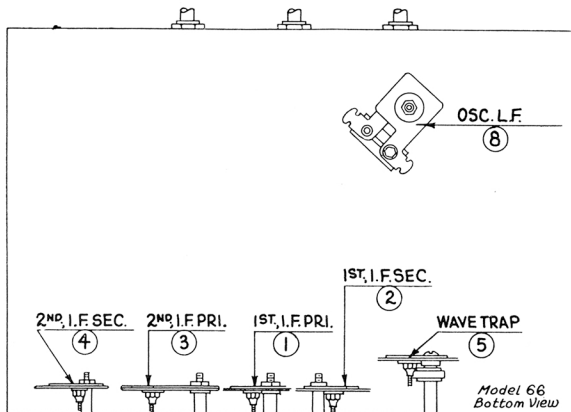

Fig. 19
1. Remove grid clip from cap of 6A7 tube and connect antenna lead from signal generator to cap of tube. Connect ground lead to ground post on set. Turn on set and signal generator; set wave switch of latter to 460 K.C. (the I.F. of Model 66) and dial of set at 540, wave band switch to left. Adjust each of the four I.F. compensating condensers ①, ②, ③ and ④ in turn so that maximum reading is obtained in the output meter (connected as explained on page 2). If the meter reading goes off scale, adjust the attenuator on the signal generator so as to get a lower reading. These I.F. condensers (visible in Fig. 19) are adjusted by inserting the hex wrench through the holes in rear of chassis sub-base (except one to extreme left when facing rear of set). Two of the holes are covered by small metal buttons which can be removed temporarily by hand.
4. This condenser ⑧ is located underneath chassis (see Fig. 19) and is reached from underneath. Set dial of set at 60 and signal generator switch at 600, and adjust for maximum reading.